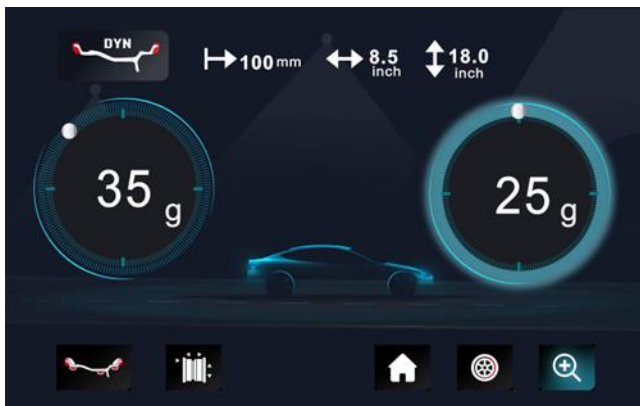

Fig. 3
4.1.6. Press  until the right LED fully lights up. Clip weight on the 12 o'clock position (Fig. 3)